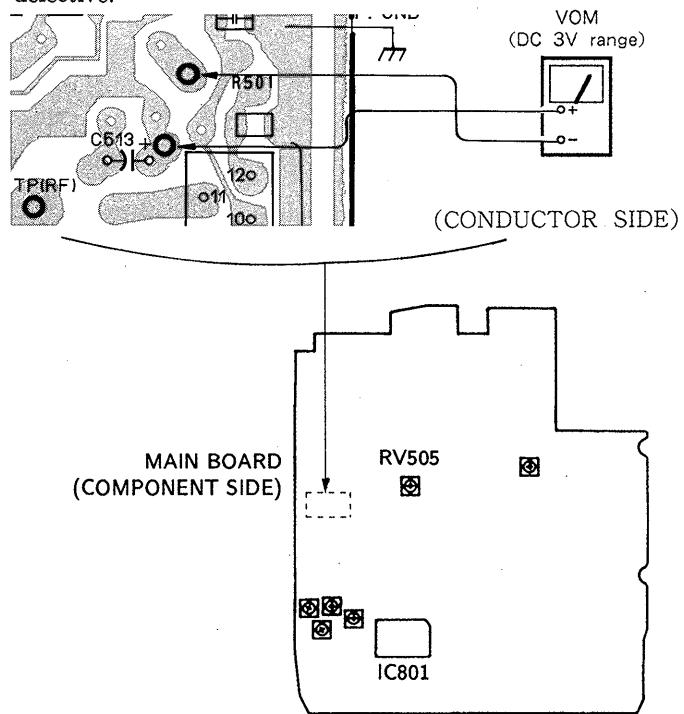

Fig. 2
3. Connect a VOM as shown in fig. 2.